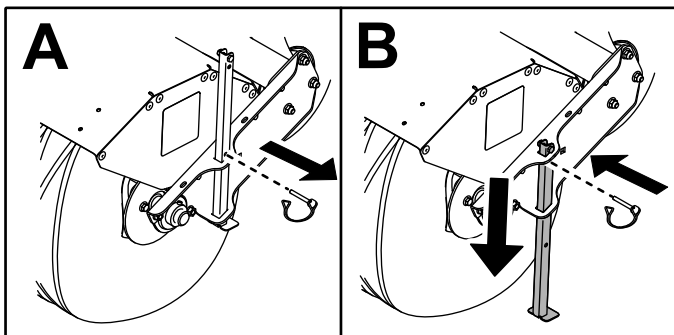

Figure 18
4. Lower the left, right, and rear kickstands (Figure 18).